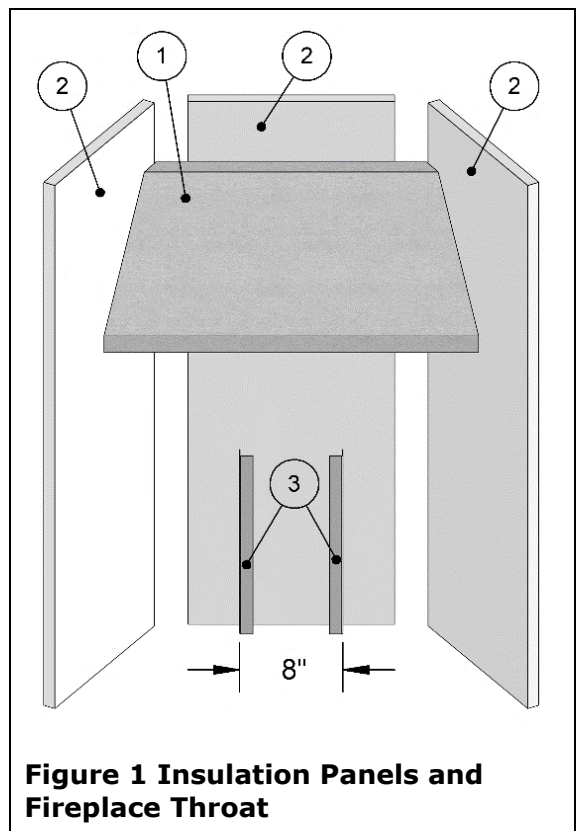

Figure 1 Insulation Panels and Fireplace Throat
Please refer to Figure 1 while following the installation procedure below:
1. First, find the throat (1). The insulation panels (2) are already installed in your fireplace.
2. Take the throat (1) and hold the wider part of it with your two hands, flat face towards you. Place yourself down on your knees in front of the fireplace opening. Tilt and slide the throat inside the firebox along the flue divider at the top of firebox. Slowly slide the throat up so you can lay it on the $\frac{5}{8}$ " bend. Let the throat tilt back. It will stay in place by itself.
3. Place the two rear supports (3) against the back insulation panel so that they are centered and 8" apart as shown in Figure 1. They provide a sturdy backing for the lower back vermiculite brick and the middle back vermiculite brick. Use the supports as a straight edge and cut a slit in the back-insulation panel, then insert the rear support so they can rest firmly against the back wall of the firebox.